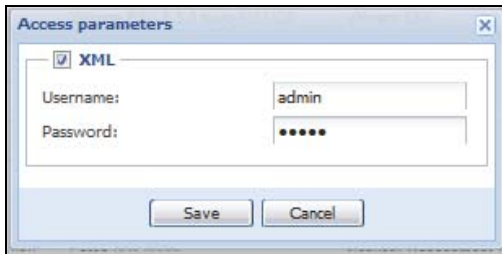
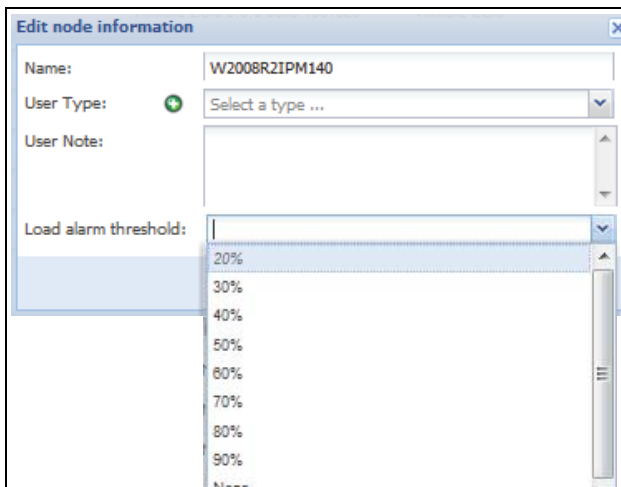

Figure 19. Node Access Parameters Dialog
Figure 20. Edit Node Information Dialog
4. The Edit Node Information dialog or the Access parameters dialog displays (see Figure 19 and Figure 20):